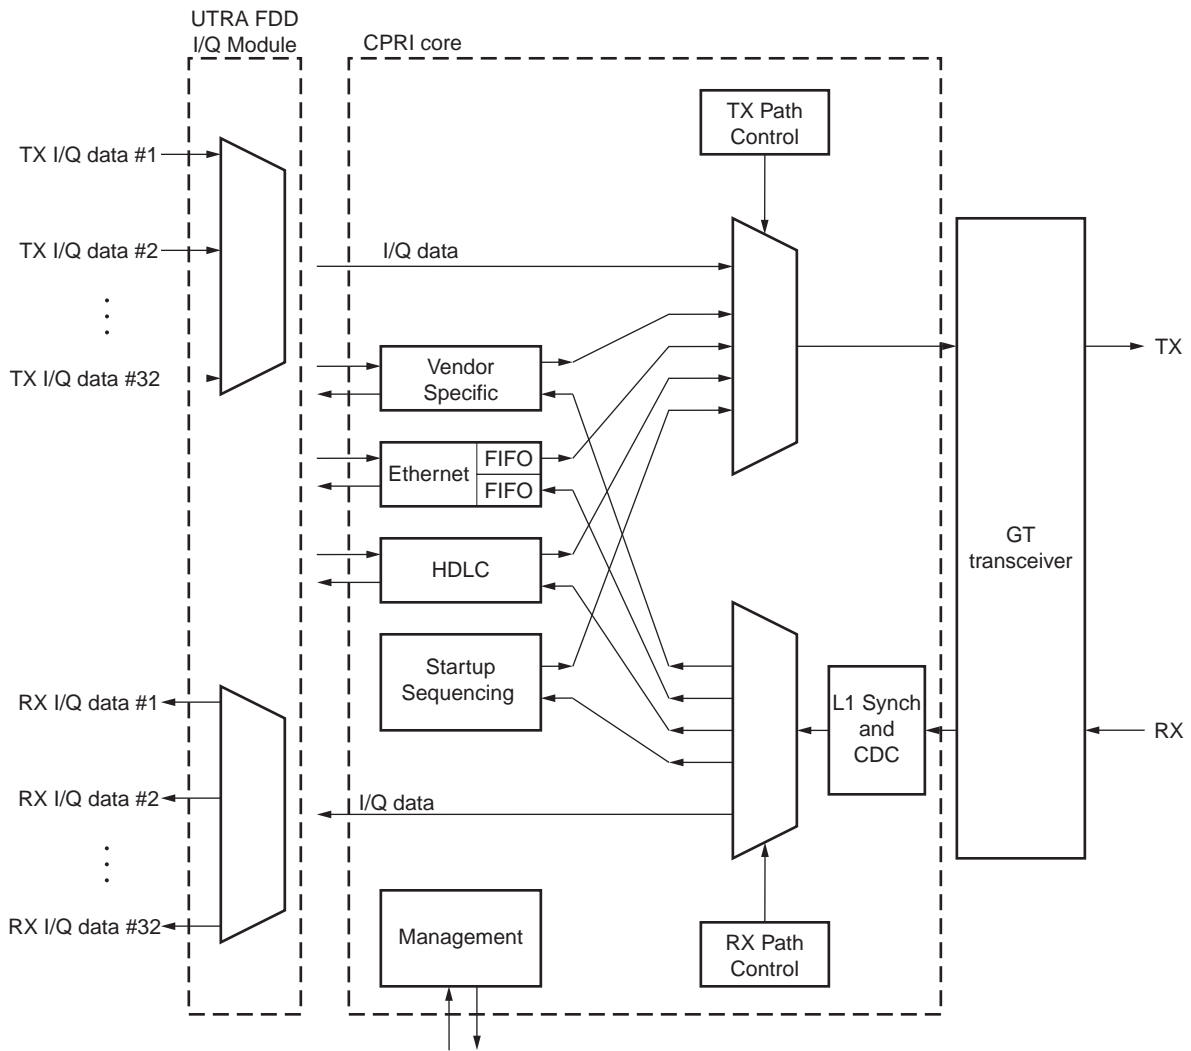

Figure 1: CPRI Top-Level Block Diagram
The architecture of the core is shown in Figure 1. In addition to the interfaces described previously, the core contains these blocks:
- **UMTS Terrestrial Radio Access - Frequency Division Duplexing (UTRA FDD) I/Q Module:** A pluggable I/Q module to support multiplexing and demultiplexing of I/Q samples in UTRA FDD systems (shown in Figure 1).
- **Legacy raw I/Q Module:** A pluggable I/Q Module for backward compatibility with the raw interfacing timing for v1.x CPRI cores (not shown in Figure 1).